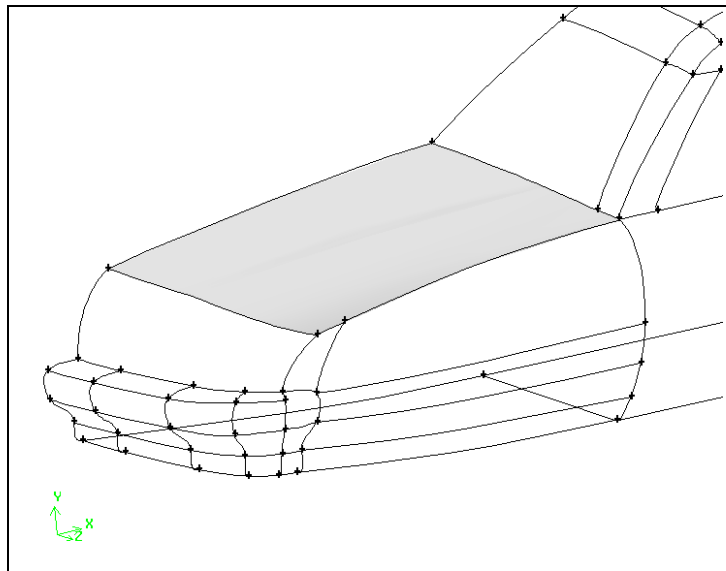

Figure 5-10: Three faces merged on hood of sedan
- e) Click **Apply** to accept the selected faces and merge them into one face, as shown in Figure 5-10.